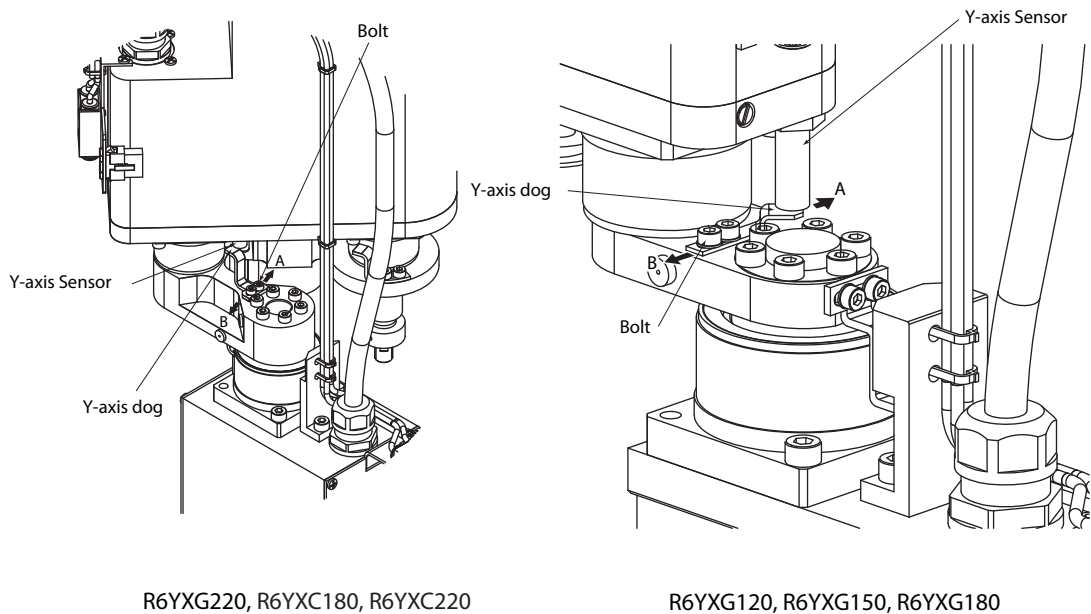

Fig. 4-14 Adjustment of Y-axis machine reference
- 8) Using a hex wrench, loosen the bolts (2 pieces) securing the Y-axis dog. (See Fig. 4-14.)